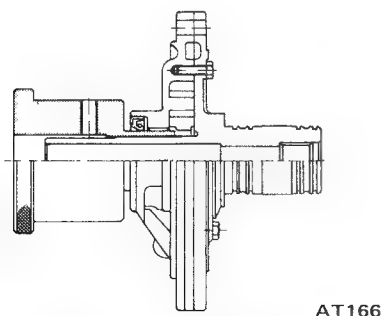

Fig. AT-98 Centering oil pump
2. With the aid of Oil Pump Assembling Gauge ST25580000, install pump cover to pump housing as shown in Figure AT-98.